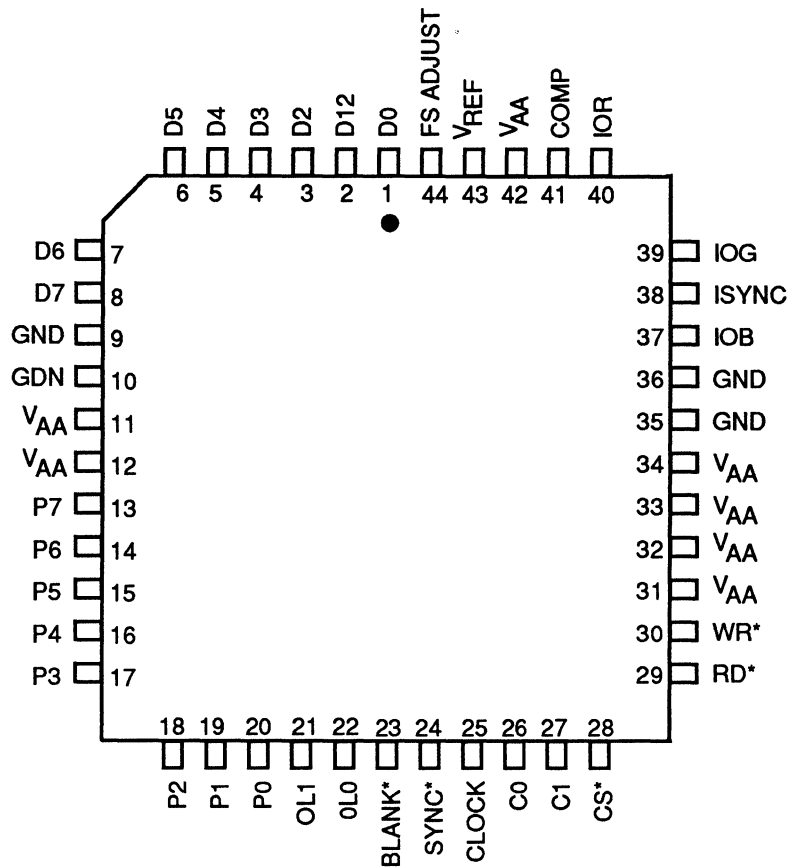

FIGURE 1. PIN CONFIGURATION
- 3.1.1 PACKAGE:** Void free plastic 40-pin PLCC package, with leads tin-lead plated. Dimensions per Figure 3. Pin configuration per Figure 1.